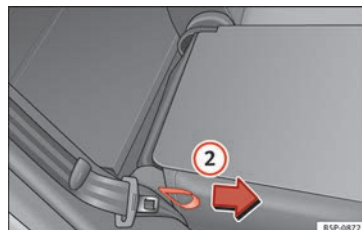

Fig. 82 Lifting the rear seat backrests.
» **Fig. 82** ② in the direction of the arrow